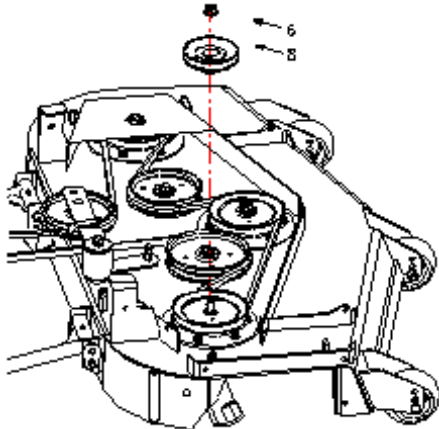

FIG 2
b) Install Drive Pulley (FIG 2) using existing hardware